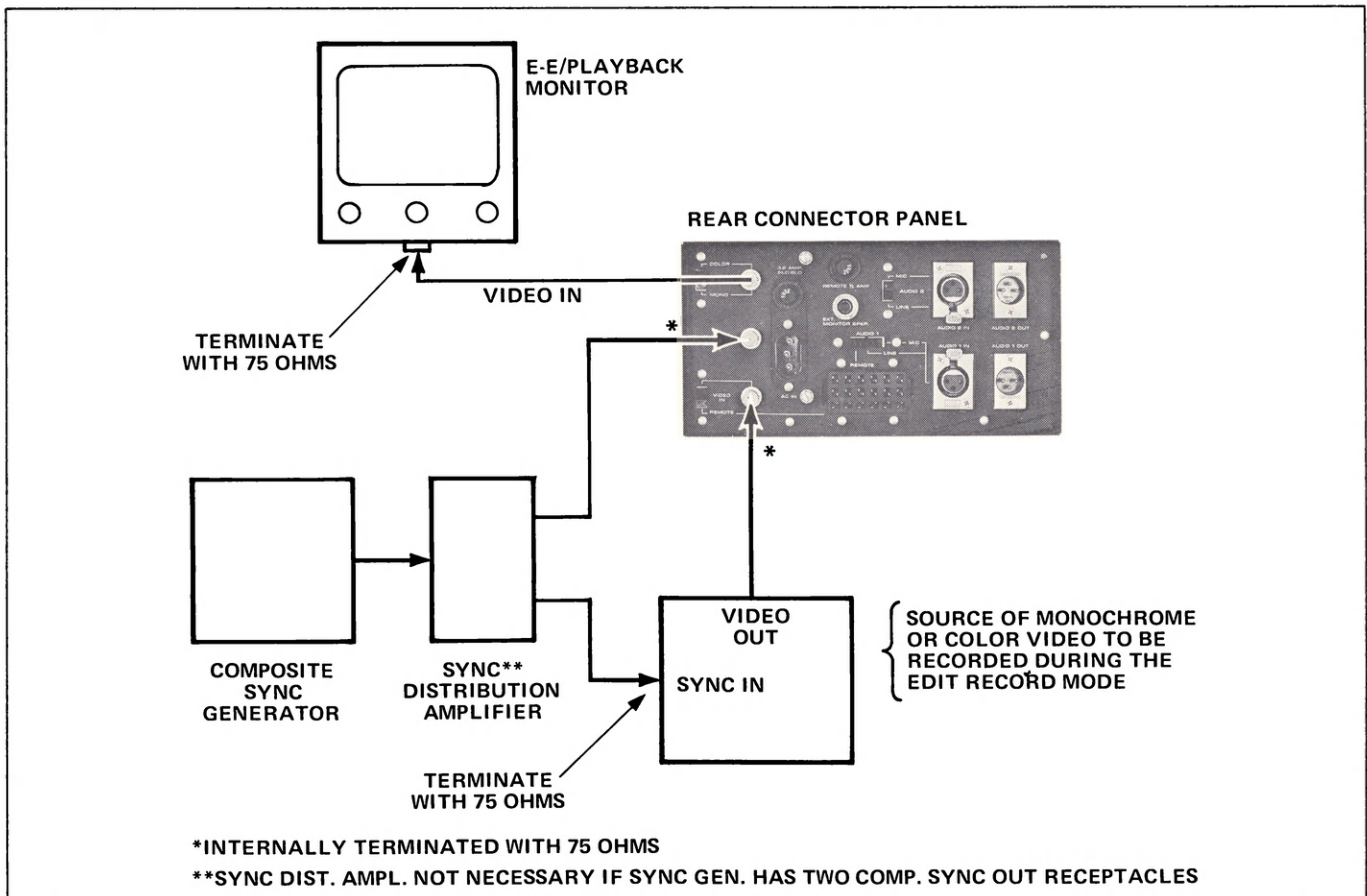

Figure 16: Recommended Connections when Performing an Assemble or Insert Edit Recording
Figure 16 illustrates recommended connections for performing ASSEMBLE or INSERT EDIT recordings. The composite sync generator shown is optional; however, it is a desirable component during an editing function, in that both the PLAY unit and RECORD unit would be locked to the same external sync source. This setup would provide maximum servo lock-in between the two units. Note however, that the source of video (PLAY unit) must have an input receptacle for receiving the external sync. DO NOT attempt to operate with the external sync connected to only one of the units.
1. Connect the video source to be ASSEMBLE EDIT recorded to the Video In receptacle or Remote receptacle (Refer to figure 16); set the Video In selector to the appropriate setting.
1. Connect the video source to be INSERT EDIT recorded to the Video In receptacle or Remote receptacle (Refer to figure 16); set the Video In selector to the appropriate setting.